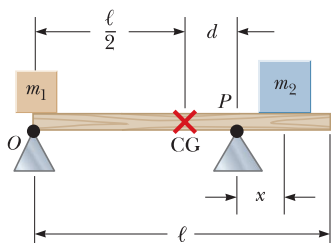

Figure P12.2
2. Why is the following situation impossible? A uniform beam of mass $m_b = 3.00$ kg and length $\ell = 1.00$ m supports blocks with masses $m_1 = 5.00$ kg and $m_2 = 15.0$ kg at two positions as shown in Figure P12.2. The beam rests on two triangular blocks, with point P a distance $d = 0.300$ m to the right of the center of gravity of the beam. The position of the object of mass m_2 is adjusted along the length of the beam until the normal force on the beam at O is zero.